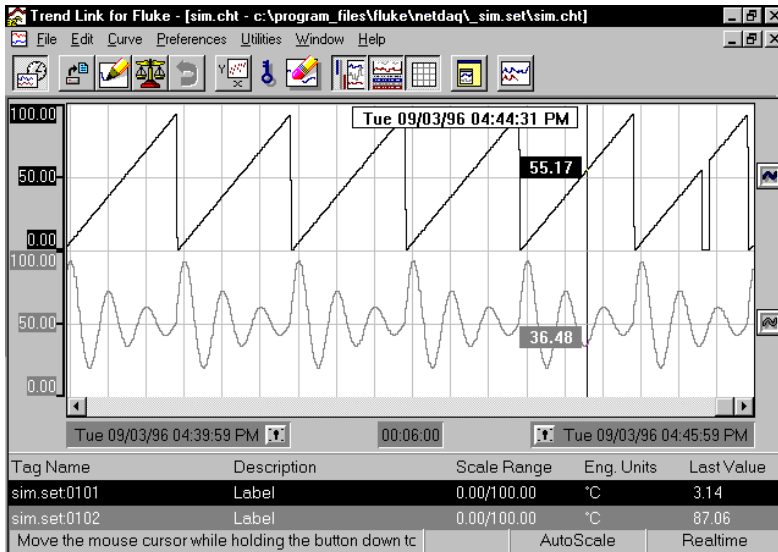

Figure 12.
2. Move the mouse right or left while holding the mouse button to view the value where the cursor intersects the trace. The time each measurement was recorded is displayed at the top of the cursor. (Figure 12)